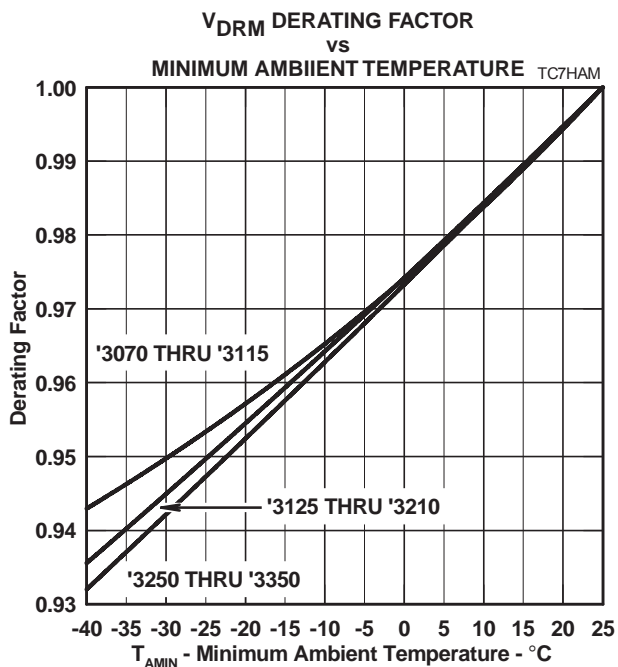

Figure 9.
- See Figure 9 for voltage values at lower temperatures.
The protector should not clip or limit the voltages that occur in normal system operation. For unusual conditions, such as ringing without the line connected, some degree of clipping is permissible. Under this condition, about 10 V of clipping is normally possible without activating the ring trip circuit. Figure 9 allows the calculation of the protector  $V_{DRM}$  value at temperatures below 25 °C. The calculated value should not be less than the maximum normal system voltages. The TISP3290H3, with a  $V_{DRM}$  of 220 V, can be used for the protection of ring generators producing 105 V rms of ring on a battery voltage of -58 V. The peak ring voltage will be  $58 + 1.414 \times 105 = 206.5$  V. However, this is the open circuit voltage and the connection of the line and its equipment will reduce the peak voltage.
For the extreme case of an unconnected line, the temperature at which clipping begins can be calculated using the data from Figure 9. To possibly clip, the  $V_{\text{DRM}}$  value has to be 206.5 V. This is a reduction of the 220 V 25 °C  $V_{\text{DRM}}$  value by a factor of  $206.5/220 = 0.94$ . Figure 9 shows that a 0.94 reduction will occur at an ambient temperature of -32 °C. In this example, the TISP3290H3 will allow normal equipment operation, even on an open-circuit line, provided that the minimum expected ambient temperature does not fall below -32 °C.